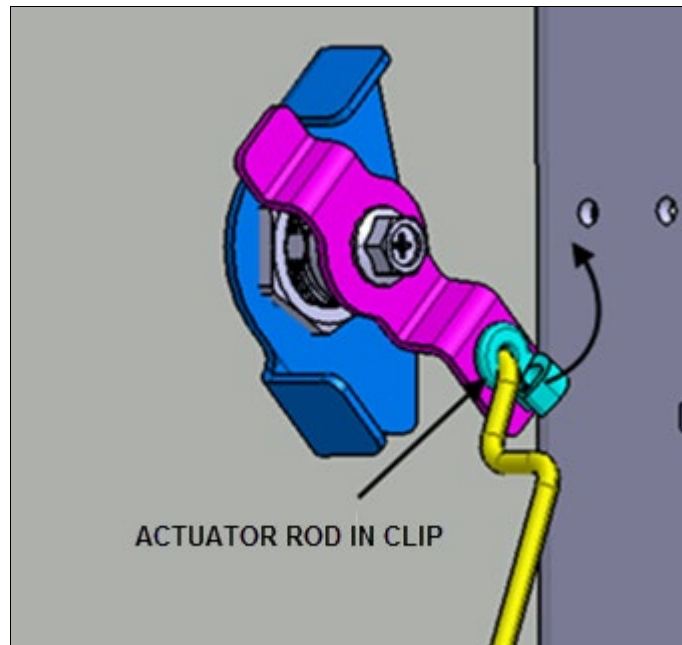

FIG.3 ACTUATOR COVER, ROD AND CLIP
3. Disengage the plastic locking clip to disconnect the actuator rod from the latch plate (Fig.3).